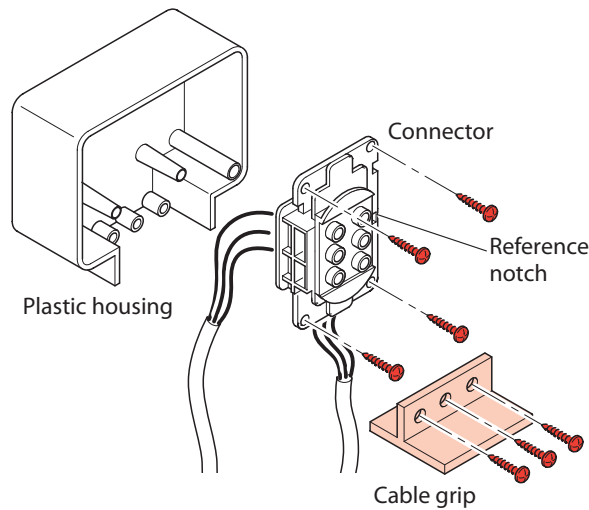

Fig. 3
1. Wire up the Input-Output connector supplied as shown in figure 3, using insulated cable with wires whose section is at least **2.5 mm²**.
2. Insert the connector into the plastic housing and secure it using the screws supplied. Secure the wires to the housing using the cable grip (see fig. 3).
The cables supplied are fitted with an input plug and outlet sockets whose maximum capacity is 16A. Therefore, we recommend use of direct cabling from the control panel to the connector supplied (follow instructions for connections shown in Figs. 3 and 4 on Pages 36-37) for applications where the anticipated UPS input current will be in excess of 13A (e.g. 5000 VA with V_{in}=184V).